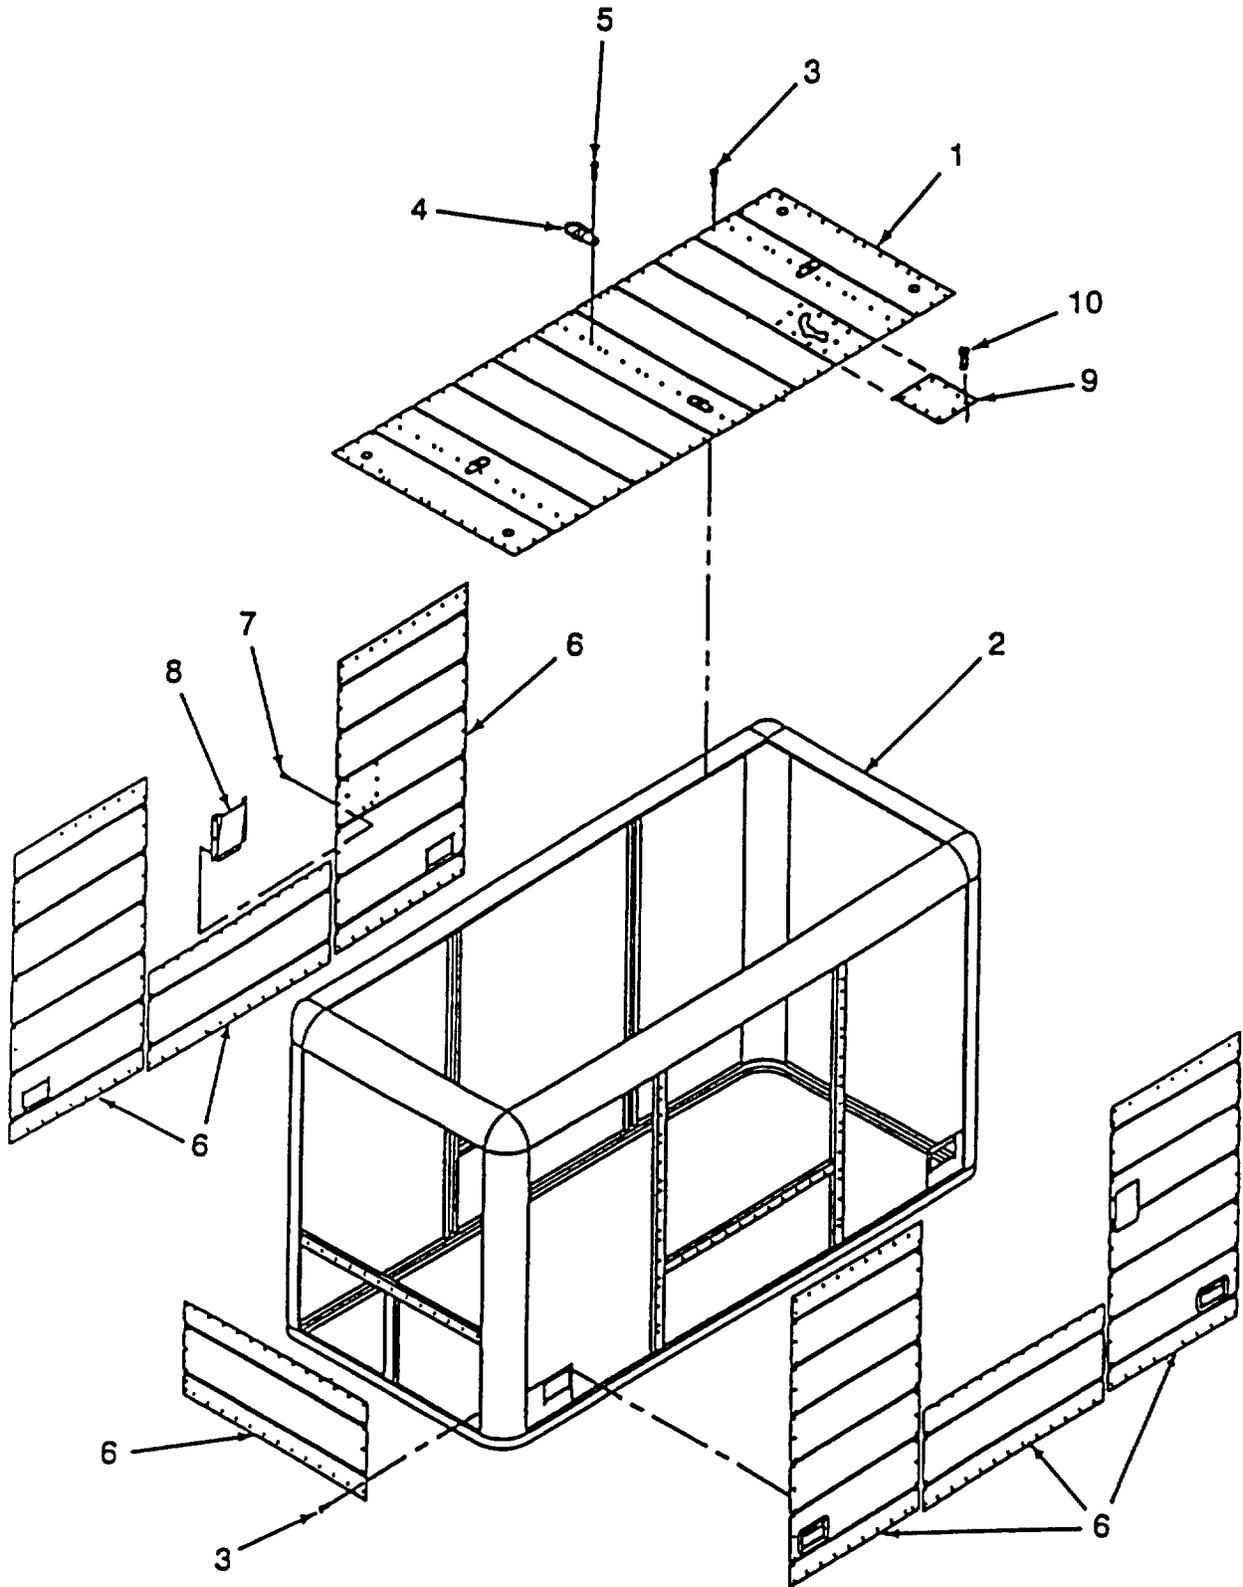

Figure 4-3. Panels
**Step a (2) applies to all panels, for other steps, proceed only as needed.**
- a. Removal. (Refer to Figure 4-3).
- (1) Remove top panel (1) from enclosure frame (2) by drilling out all rivets (3) using electric drill with 3/16" drill bit.
- (2) Remove four latch retainer D-rings (4) by drilling out rivets (5).
- (3) Remove all other panels (6) by drilling out rivets (7) around outside edges of panels.
- (4) Remove storage pocket (8) by drilling out rivets (7)..